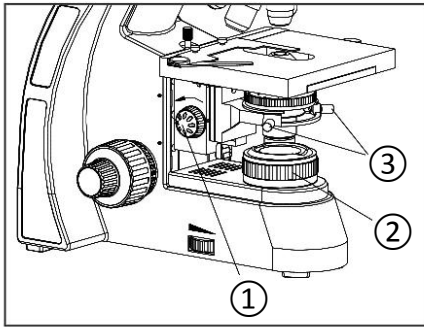

Fig. 13
Rotate the condenser knob ① to raise it to the highest position (Fig. 13).